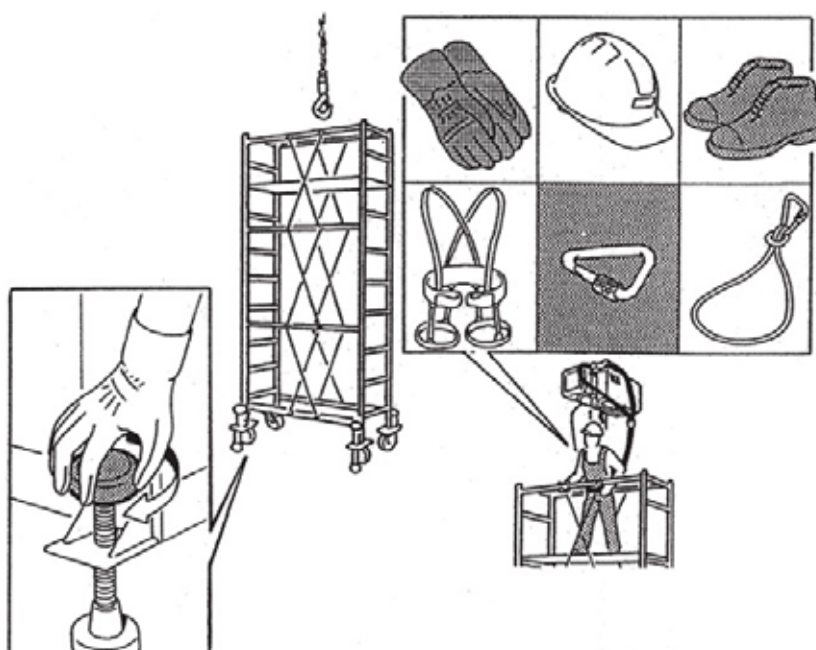

fig.113
1. For heights up to 5 m, position a mobile scaffold with side rails on the side of the hoist motor. For greater heights, carry out the operations using a mobile platform. (fig.113)
2. Secure the scaffolding with the appropriate feet. (fig.113)